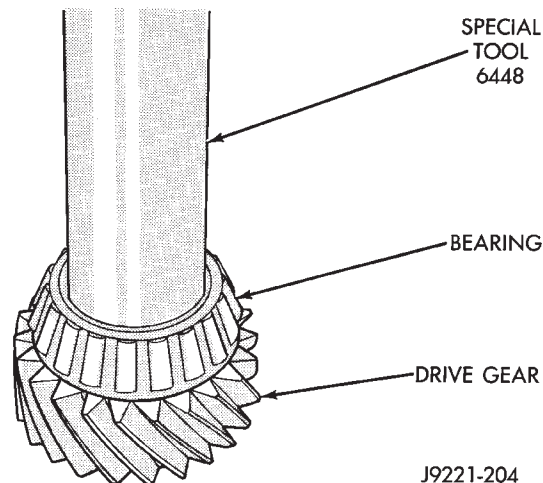
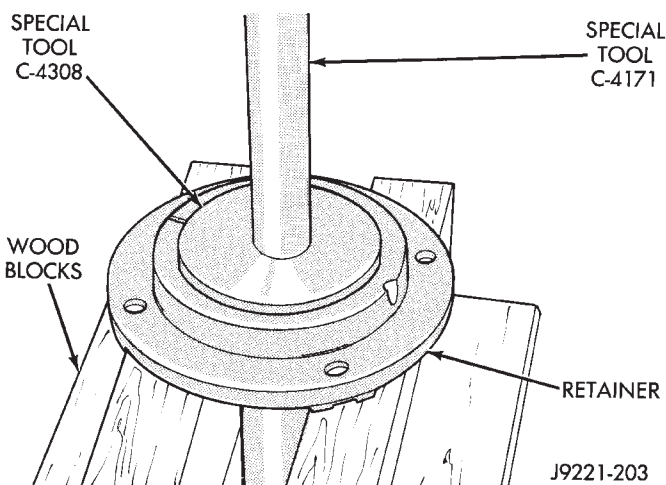

Fig. 123 Installing Front Bearing On Drive Gear
Fig. 124 Installing Front Bearing Cup In Retainer
(1) Install bearing on drive gear with Installer Tool 6448 (Fig. 123).
(2) Lubricate pilot bearing with petroleum jelly and install it in drive gear bore.
(3) Install drive gear on mainshaft. Work gear rearward until mainshaft hub is fully seated in pilot bearing.
(4) Install bearing cup in front retainer with Driver Handle C-4171 and Installer C-4308 (Fig. 124).